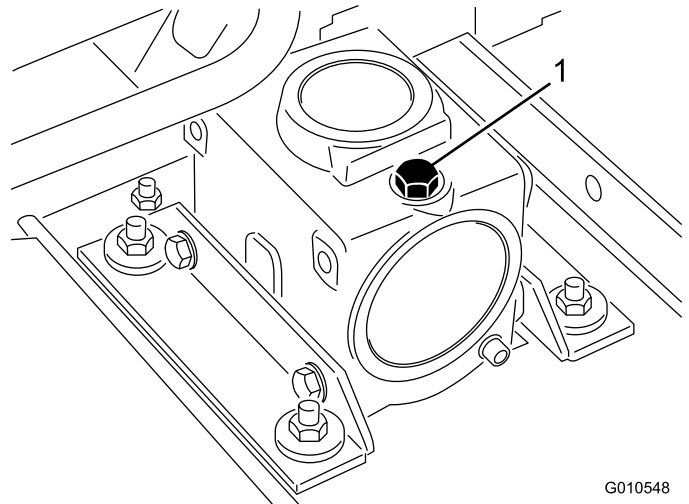

Figure 16
2. Position the machine and cutting unit on a level surface and lower the cutting unit. Remove the dipstick/fill plug from the top of the gear box (Figure 16) and make sure that the lubricant is between the marks on the dipstick. If the lubricant level is low, add SAE 80-90 wt. gear lube until the level is between the marks.